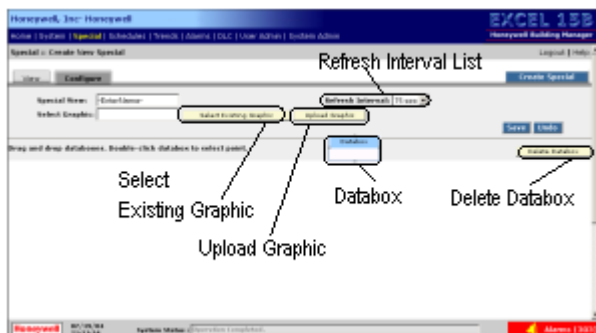

Fig. 53. Special::Create New Special Page
- a. To select a databox, move the mouse over the "Databox" icon (refer to Fig. 53). When the cursor changes from arrow to four handles, click the databox.